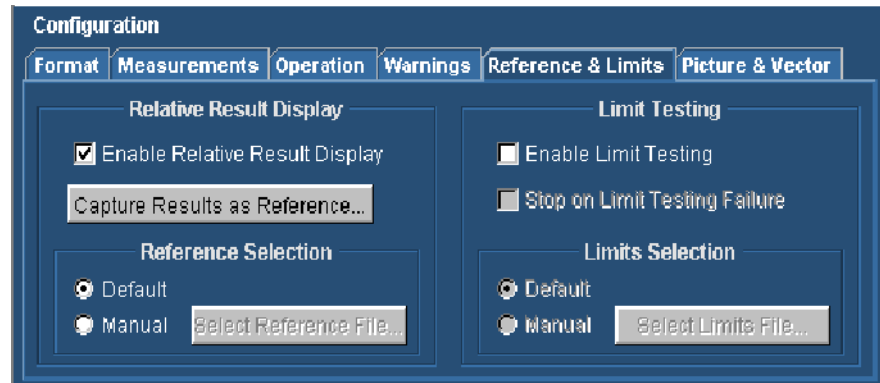

Figure 3-11: Enabling relative to reference results
5. Select **Enable Relative Result Display**. See Figure 3-11.